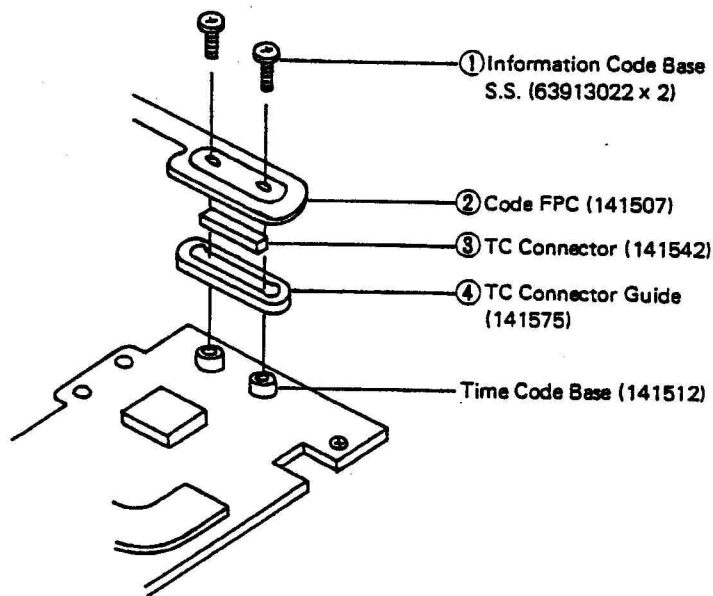

Fig. 51
d) Remove the respective parts ① ~ ④ shown in (fig. 51) in numerical order.